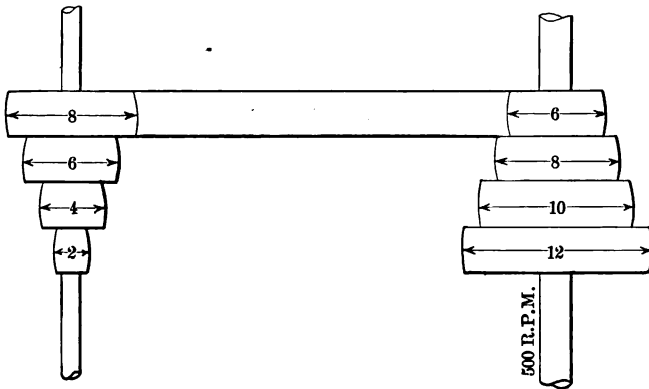

FIG. 13. — Pulley Cone, Problem 9.
9. If in the turning shop the shaft has a speed of 500 R.P.M. and a pulley cone is used having diameters 6, 8, 10, and 12 inches while a lathe has a pulley cone with diameters of 8, 6, 4, and 2 inches, what speed will the lathe have on each combination? See Fig. 13.
11. Refer to Fig. 13, page 15. With the driver running at 500 R.P.M. compare the speed of the driven and the mechanical advantage of each combination.